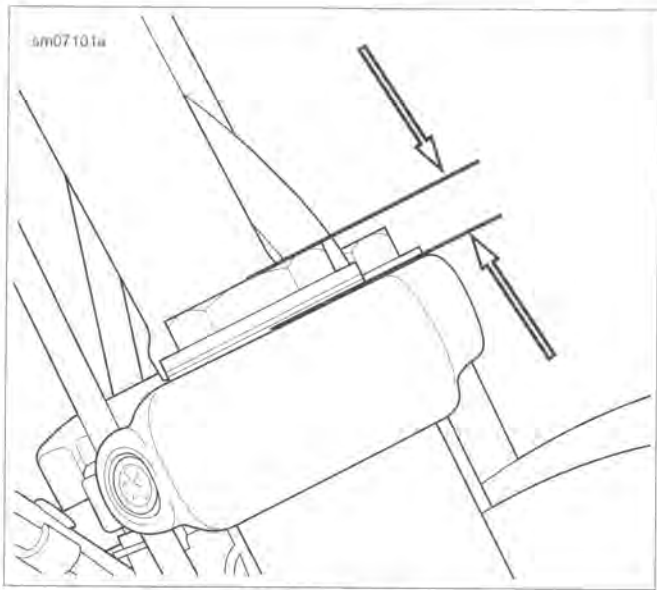

Figure 2-109. Fork Tube Protrusion
5. See Figure 2-109. Make sure that the top of fork slider cap extends 0.670-0.770 in (17.0-20.0 mm) above upper fork clamp.